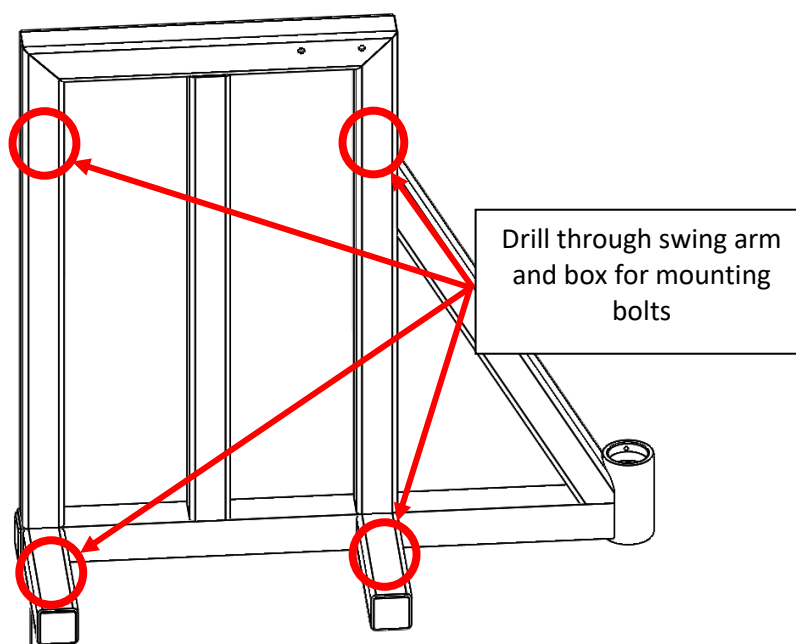

Figure 1: Drill and bolt locations for mounting box
- a. First - Two of the holes should be drilled through the bottom of the box (see Figure 1 for location).
- b. Second - The other two holes should be drilled through the back of the box and the swing arm tubing (also seen in Figure 1).